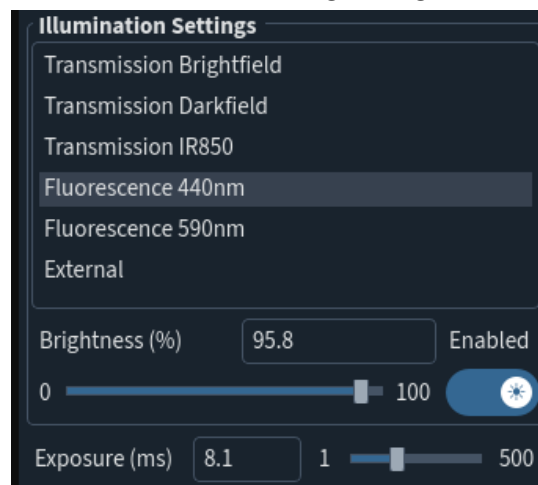

Fig 99: Fluorescent light switch when lights are on.
3. When you are ready to use the fluorescence modules again, re-enable Fluorescence in the GUI by clicking on the switch below the Enabled label again (Fig 99).